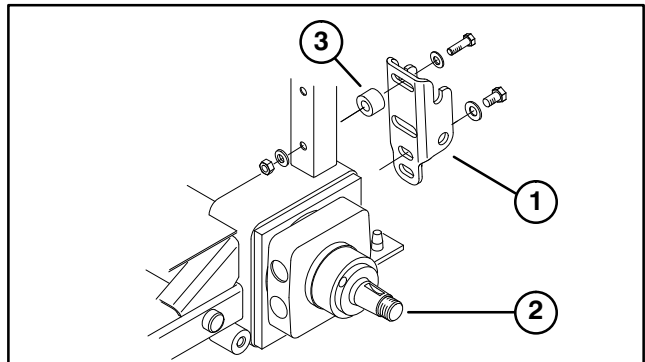

Figure 7
B. On Sand Pro 5000/5020 – Mount top of receiver bracket to frame with a 3/8–16 x 1.25" lg. capscrow, (2) .40 I.D. x .81 O.D. flat washers, .625" lg. spacer and locknut. Mount bottom of receiver bracket to frame with a 1/2–13 x .875" lg. capscrow and (2) .56 I.D. x 1.063 O.D. flat washers. Position components as shown in figure 7.